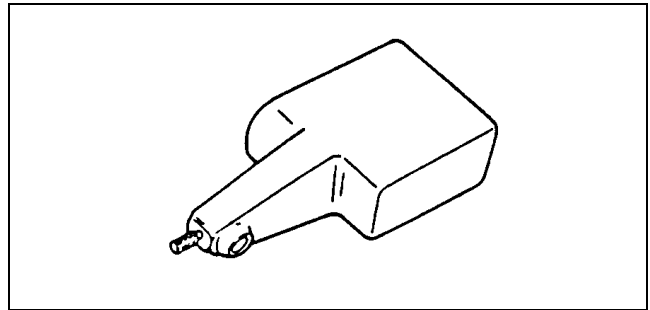

Figure 25
- TOR80110H Indicator Holder (Fig. 25)